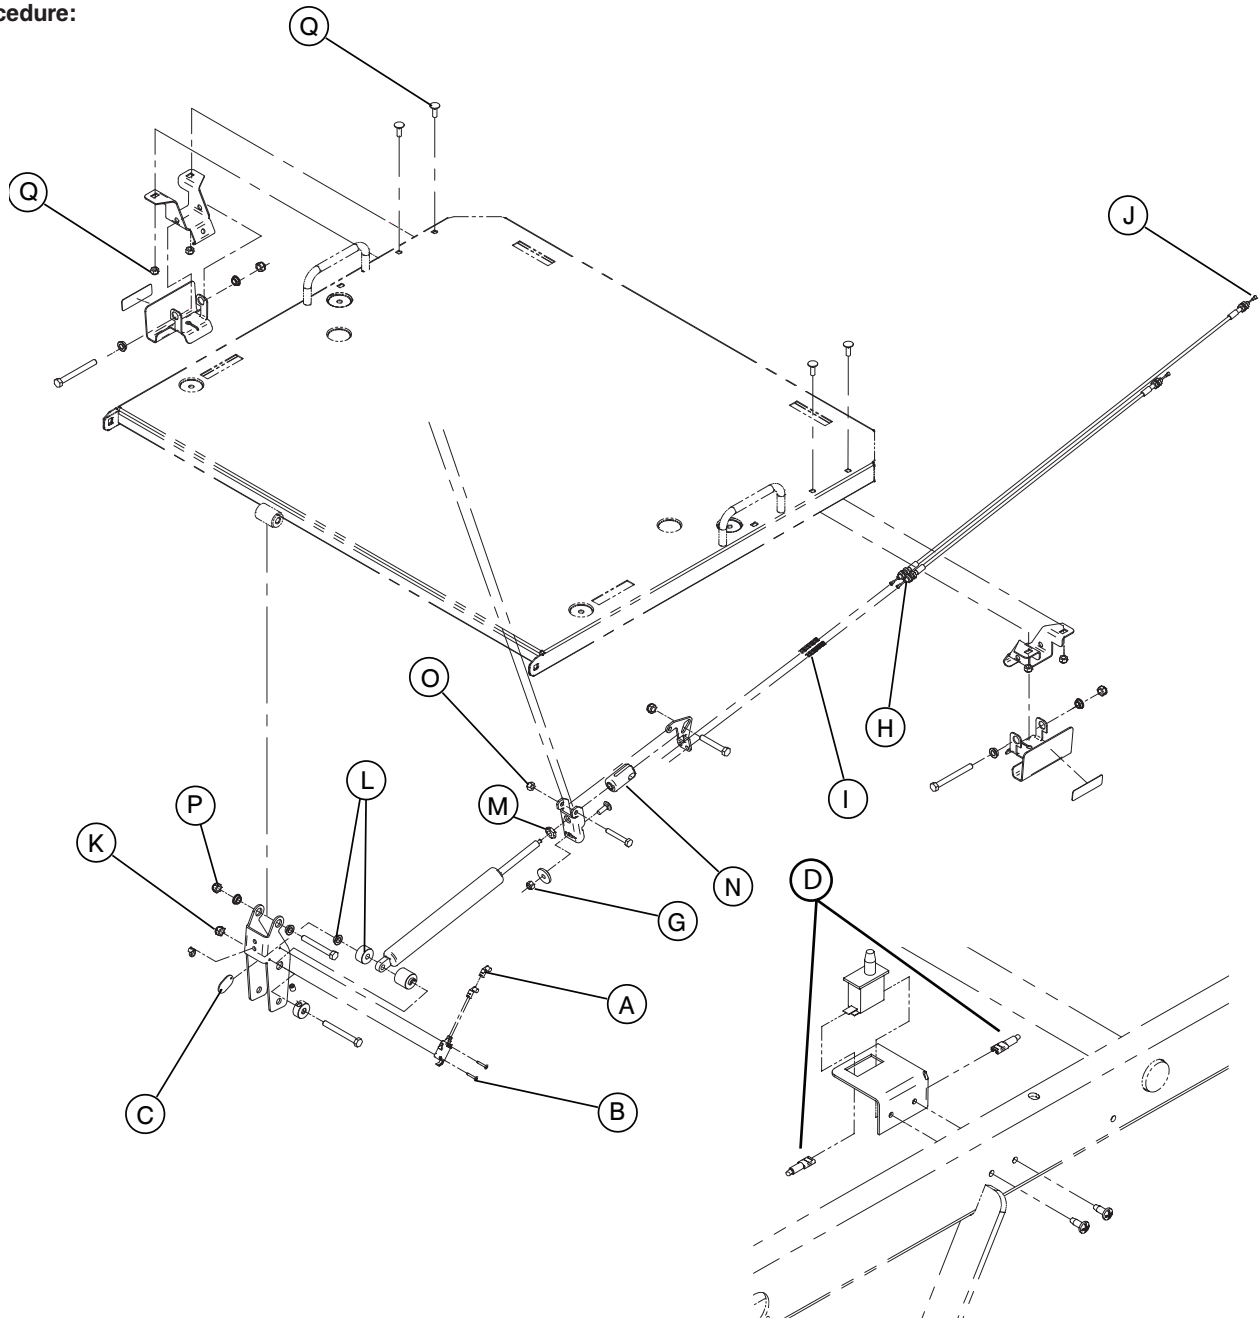

Figure 4.3 F
**Note:** Unless otherwise indicated, refer to Figure 4.3 F on pg. 61 for the following replacement procedure.